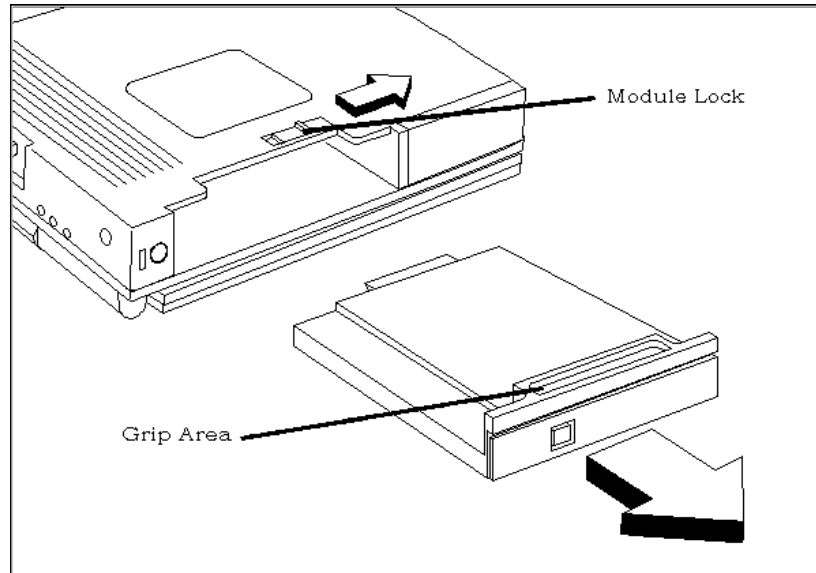

Figure 6-11 Removing/Replacing a Module
2. Unlatch the module by pushing the Module Lock (Figure 6-11) toward the unlock icon.